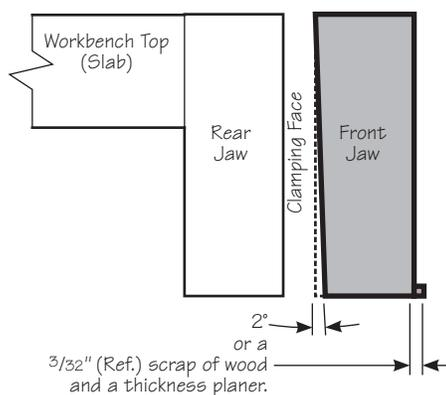

Figure 10: Front jaw taper.
16. Remove the vise front assembly, then the front jaw from the vise front assembly. **Do not remove the carriage or rear jaw from the bench.** If required, trim the jaws to length and drill any desired $\frac{3}{4}$ " dia. bench dog holes. Plane a 2° taper on the **clamping** face of the **front** jaw, so that it is thinner at the bottom than at the top, as shown in **Figure 10**. This will ensure that pieces clamped in the vise will always be gripped at the top of the jaws. This can be achieved by using a hand plane or a belt sander. Or, by temporarily adding a scrap of wood to the opposite side (using glue or double-sided tape), the jaw can be passed through a thickness planer.